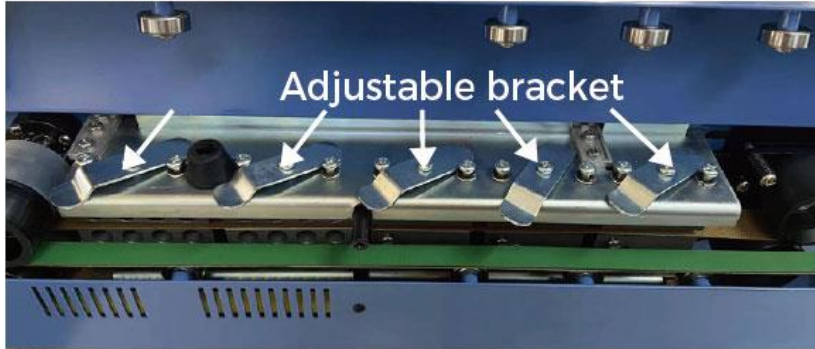

Fig. 7-3
3. To increase or decrease tension on the heating blocks use the adjustment bracket, three for the heating block and two for the cooling block. (Fig. 7-3)